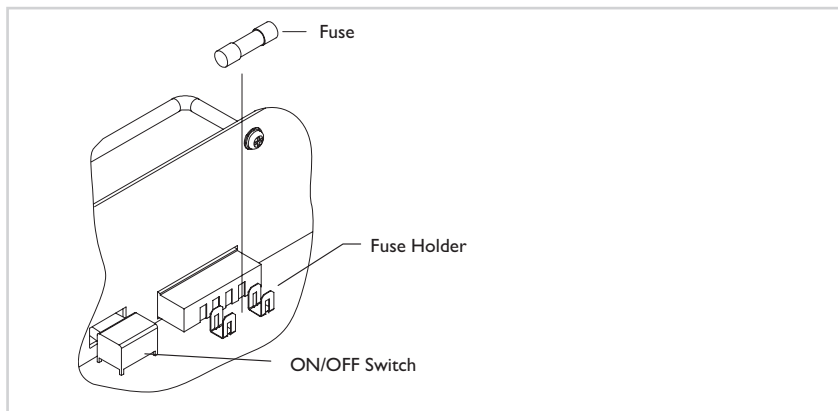

Figure 13: Fuse Holder with Fuse
3. Remove and keep the two (2) 6-32 philips head screws that secure the module to the chassis.
5. Carefully remove the fuse from the fuse holder, shown in Figure 13.